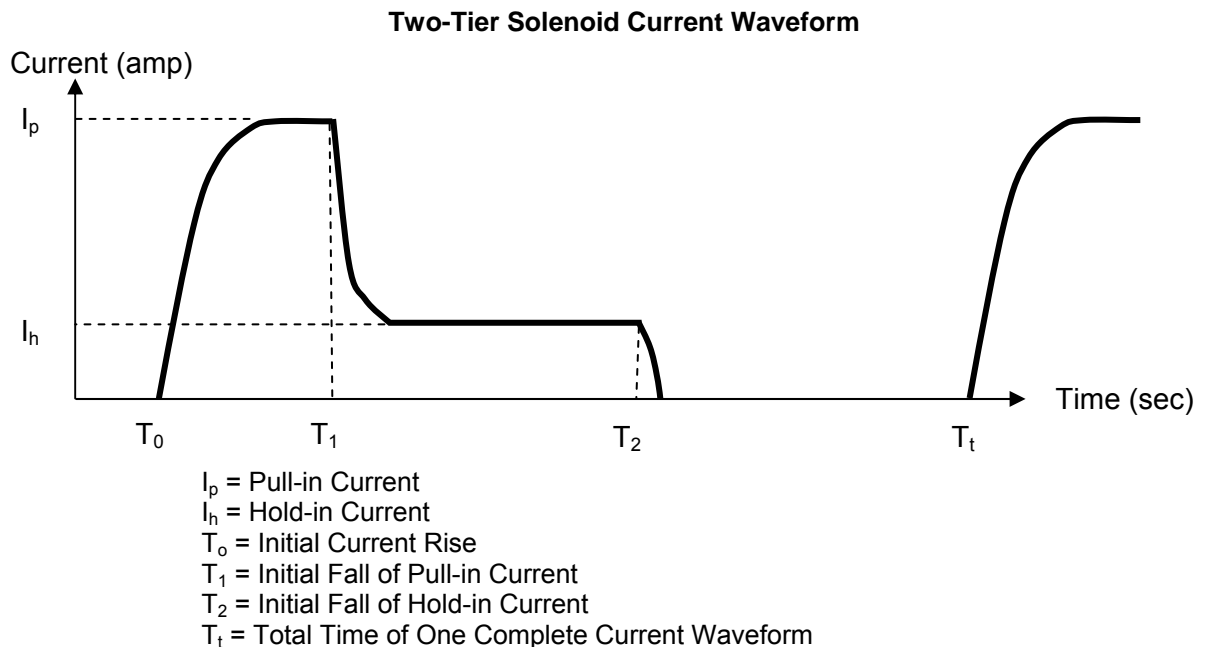

Figure A-1. Two Tier Current Waveform Parameters
Woodward solenoids are labeled with maximum rated values of input current and input power. These input ratings must not be exceeded during continuous solenoid operation, to prevent exceeding a prescribed coil temperature rise at the maximum rated ambient operating temperature. These solenoids must be driven by specially designed current limiting drivers, providing periodic, two-tier current waveforms (see example waveform in Figure A-1).
1. A solenoid application is established and a suitable, worst case, two-tier current waveform is defined, in terms of the parameters defined in Figure A-1, that achieve the desired solenoid dynamic performance.
2. The current waveform parameters are applied to the EADC equation as shown in the example calculation of Figure A-1. The resulting calculated EADC value must not exceed the solenoid’s rated EADC value, indicated on the solenoid nameplate.